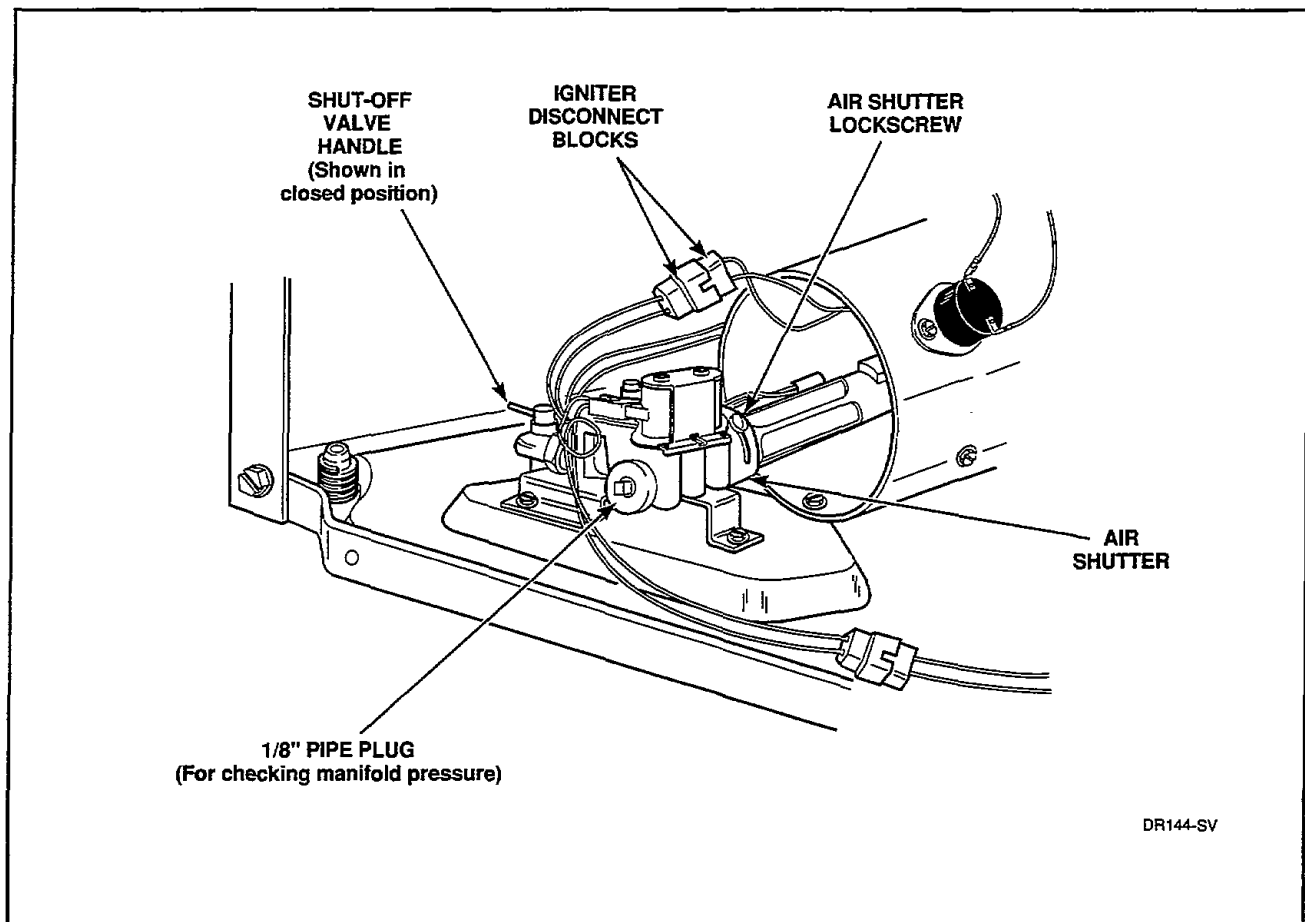

Figure 43
- e. Allow the dryer to operate for approximately five minutes, then loosen the air shutter lock screw, *Figure 43*.
- g. After proper flame is obtained, tighten air shutter lock screw securely, *Figure 43*.
- Close gas shut-off valve, *Figure 43*.